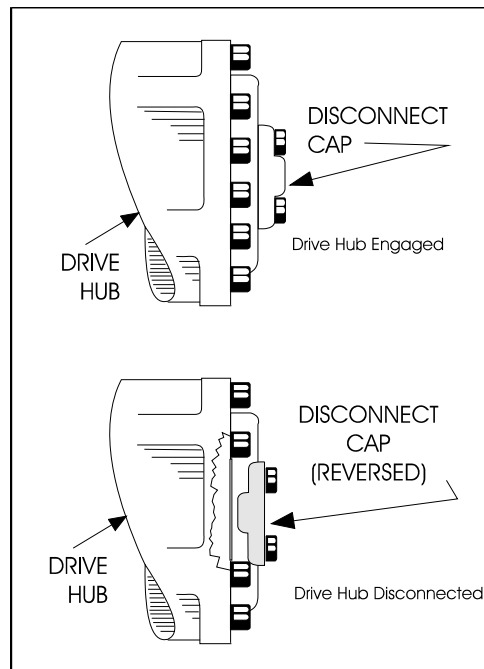

Figure 4-4. Drive Disconnect Hub
- 3. Disconnect drive hubs by inverting disconnect cap. Refer to Figure 4-4., Drive Disconnect Hub.